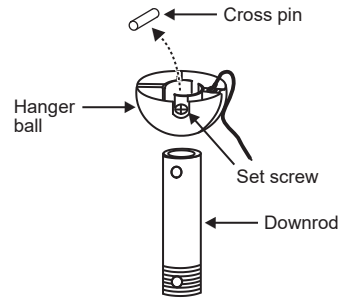

Fig. 8
Step 5. Remove ball from downrod by loosening set screw in the side of the ball. Slide ball down and remove cross pin; remove ball. (Fig. 8)